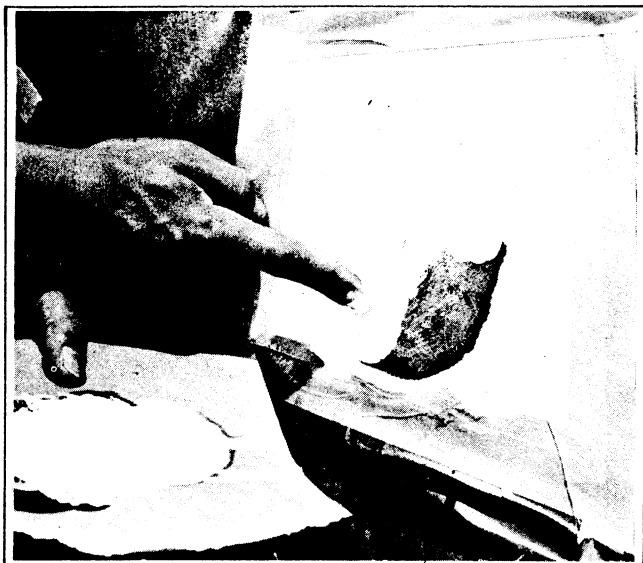

Figure 2-79. Working Gel Coat into Patch
11. Mix gel coat or filler coat with catalyst. Work Gel Coat into patch with fingers. See Figure 2-79. Filler Coat should be filled into patch with a putty knife.